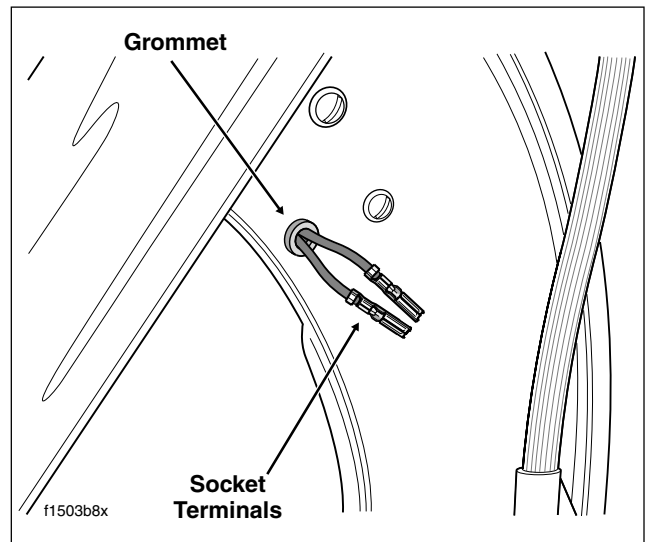

Figure 8-49. Pull Fender Tip Lamp Wires and Terminals Through Fender Grommet
8. Pull wires and socket terminals through grommet to inboard side of fender. See Figure 8-49. Reaching under left side of fender, draw wires forward out from beneath fender bracket.
10. Feed socket terminals and wires through oblong hole to outboard side of fender. See Figure 8-49.